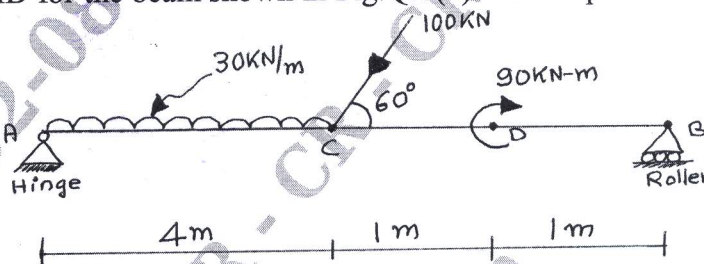

Fig.Q.6(b)
b. Draw SFD and BMD for the beam shown in Fig.Q.6(b). Locate point of contraflexure if any.